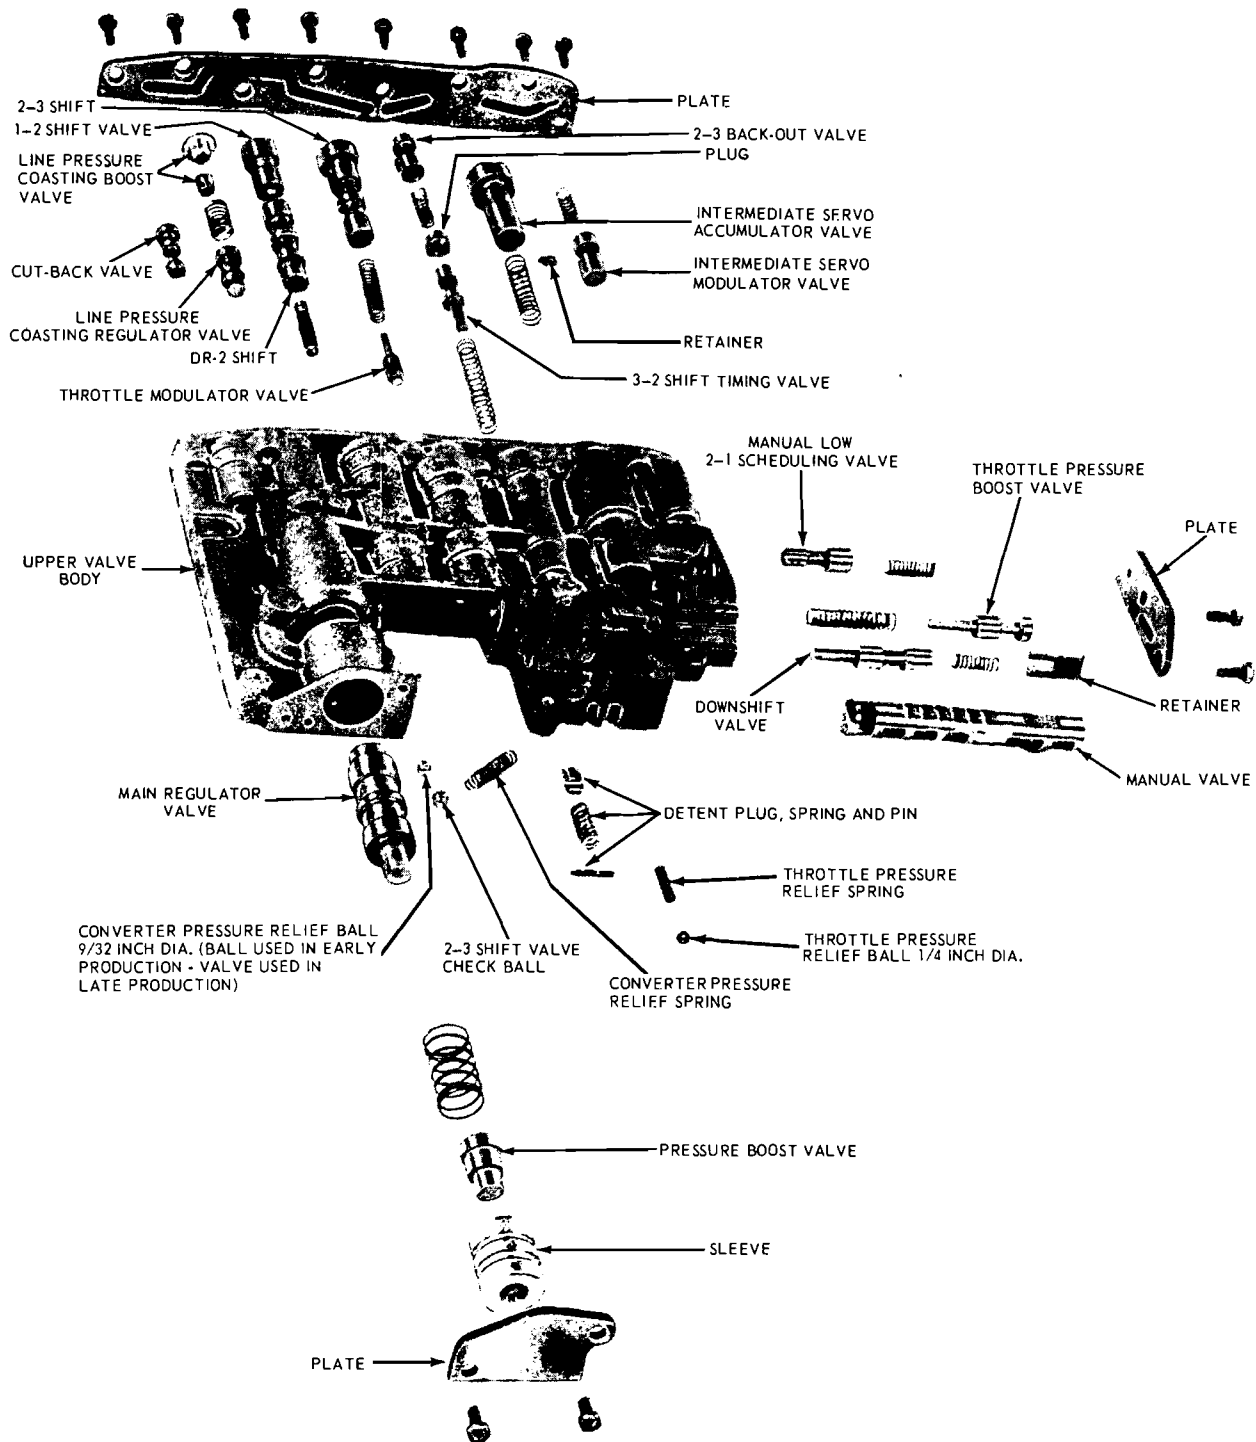

FIG. 46—Upper Valve Body Disassembled
5. Slide the manual valve (Fig. 46) out of the valve body.
11. When removing the various valves from the control valve body, keep all ports covered with your fingers except the bore the valve is being removed from. Remove the spring and the intermediate servo modulator valve (Fig. 46) from the valve body.
3. Place the cutback control valve (Fig. 46) in the valve body.